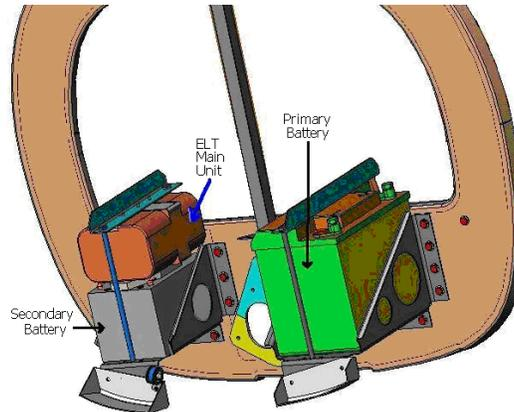

Figure 24-1 Battery Location
The airplane is equipped with a 14-volt (nominal) single-wire ground-return electrical system. A belt-driven alternator mounted at the front of the engine generates primary power. Two 12-volt maintenance-free recombinant-gas (RG) type lead-acid batteries are mounted in the aft fuselage as in Figure 24-1.